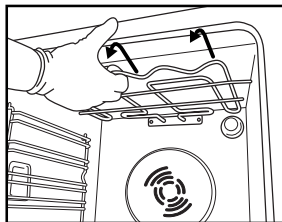
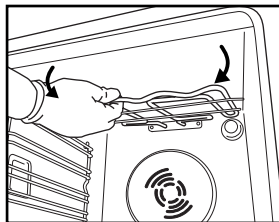

Fig. 2
Fig. 3
2. Pull the heating element out a little (Fig. 2) and lower it (Fig. 3).